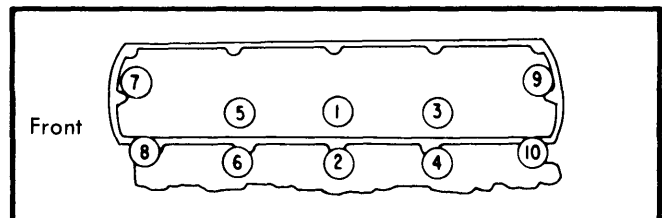

Fig. 2 Cylinder Head Tightening Sequence
**Installation** – Clean all gasket surfaces and coat both sides of head gasket with sealer. Install gasket on block and install cylinder heads. Dip cylinder head bolts in engine oil. Install and tighten in sequence in two steps. See Fig. 2.